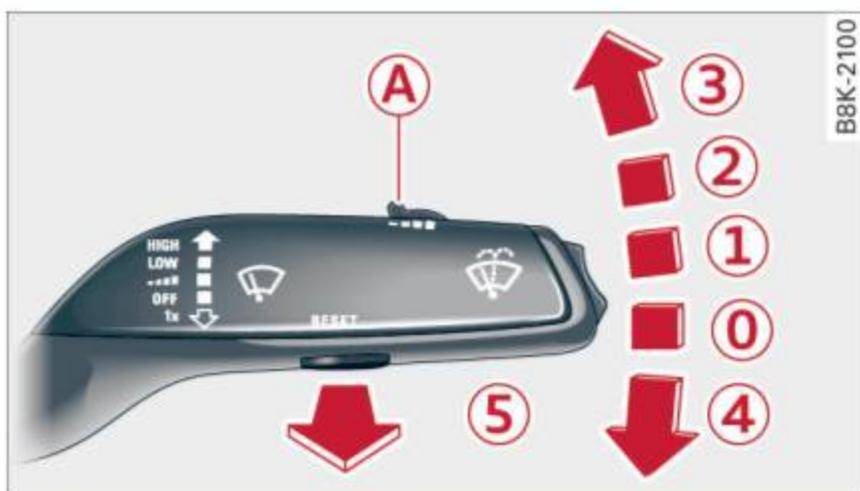

Fig. 48 Windshield wiper lever
- ▶ Switch the ignition off and move the windshield wiper lever to position ④ ⇒ page 50, fig. 48. The windshield wipers move into the service position.
- ▶ Switch the windshield wipers off (position ① ⇒ page 50, fig. 48).